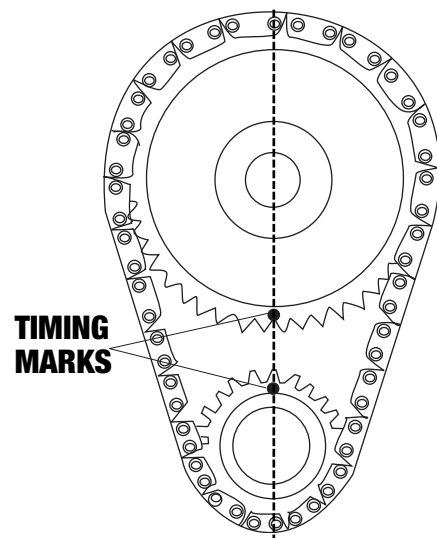

Figure 2- Timing Chain Sprocket Alignment
13. Rotate engine until timing marks are aligned as shown in Figure 2.
on the bolt threads holding timing gear to cam. Torque to factory recommendations specified in motor repair manual. Install camshaft with timing marks lined up as recommended by factory specifications. See Figure 2. When using Performer-Link Timing Chain and Gear Sets with Edelbrock cam and lifter kits, straight up timing alignment is achieved. If any other timing gear set is used, it is necessary to check cam position for correct timing alignment. This requires indexing the camshaft with a degree wheel to verify timing alignment. O.E.M. or non-Edelbrock timing gear sets are not recommended for use with Edelbrock camshafts.
High performance pushrods and rocker arms are recommended for this installation. After the cam is installed and timed correctly (see Figure 2), it will be necessary to check each pushrod for correct lifter preload.